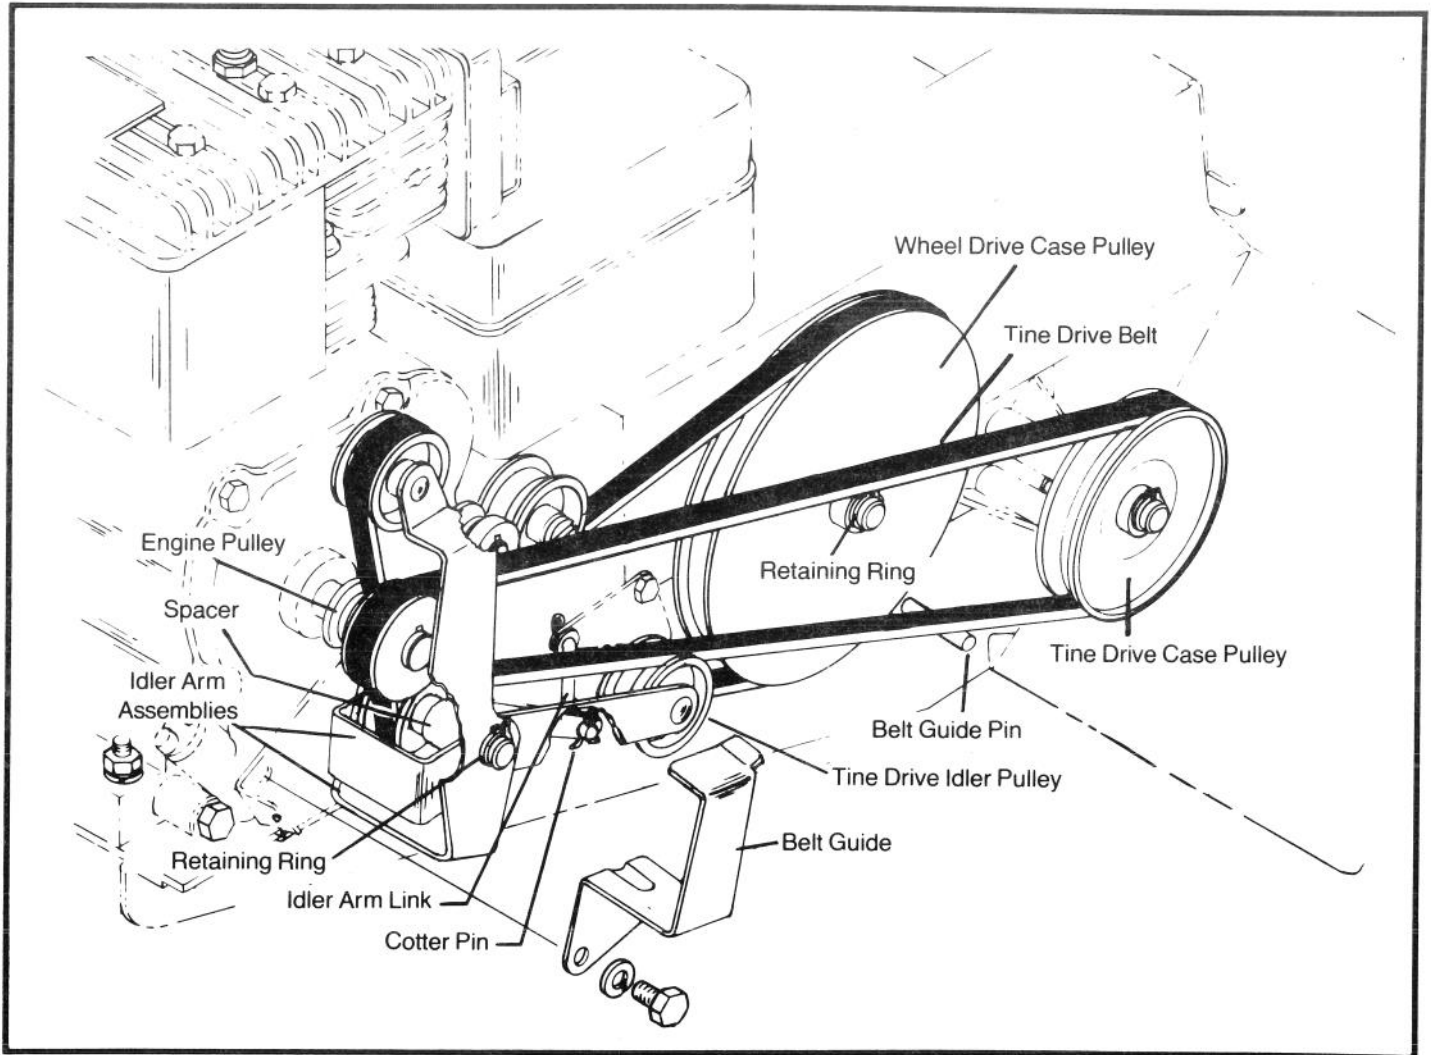

FIGURE 13
3. Remove the belt guide (Fig. 13).
6. To replace belt, reverse above procedure. Be sure belt is on top of tine drive idler pulley and the belt guide pin near the tine drive case pulley (Fig. 13).
2. Remove the retaining ring in the idler arm shaft (Fig. 13).
4. Remove wheel drive pulley by removing retaining ring and sliding pulley off shaft. (**CAUTION:** Do not loose woodruff key in drive pulley shaft.) (Fig. 13).
5. Remove cotter pin from idler arm link (Fig. 13).
6. Slide idler arm assemblies out until the spacer can be slid out between the idler and idler arm. Remove belt. To replace belt, reverse above procedure. Be sure belt is turned inside out (wide side on pulleys) before installing in pulleys (Fig. 13).